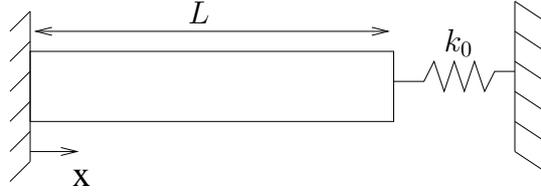

Figure 1: Rod subjected to prescribed temperature $T = T_1$ at $x = 0$ and prescribed normal flux of zero at $x = L$.
- (c) Consider the setup in Fig. 1 where the rod has a cross sectional area of A . By considering the 1D approximations $\epsilon = \partial u / \partial x$, $q = -k \partial T / \partial x$, $\tau = E[\epsilon - \alpha(T - T_0)]$, $\mathbf{C} \equiv E$, $3\kappa \equiv E$, etc., and using linear shape functions for both the displacement and the temperature (i.e., $N_u = N_T$), find the displacement and temperature at the end of the bar, i.e., at $x = L$, and the stress in the bar if a temperature of $T = T_1$ is imposed at the left end, and a normal flux of zero is imposed at $x = L$. Your answers should obviously be in terms of known parameters such as E , A , T_1 etc. You may incorporate the effect of the spring through the traction term or otherwise. Assume T_0 , A , and the material properties to be constant. You may directly use the matrices at the back, and derive any matrices that are not given there.